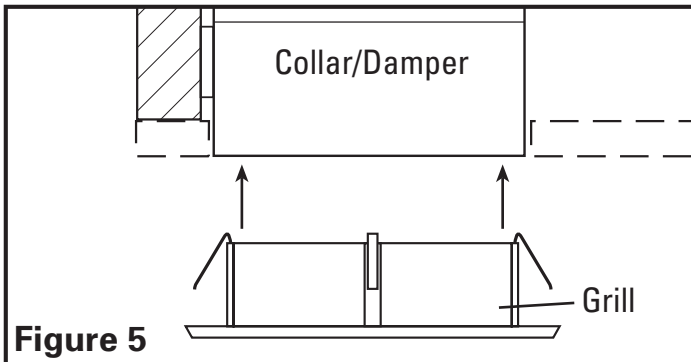

Figure 5
2. Once the wall/ceiling material is in place, install the grill into the collar by pushing it firmly inward towards the collar until it fits flush against the wall/ceiling material (**Figure 5**).
3. Install the grill into the collar by pushing it firmly inward towards the collar until it fits flush against the wall/ceiling material (**Figure 5**).